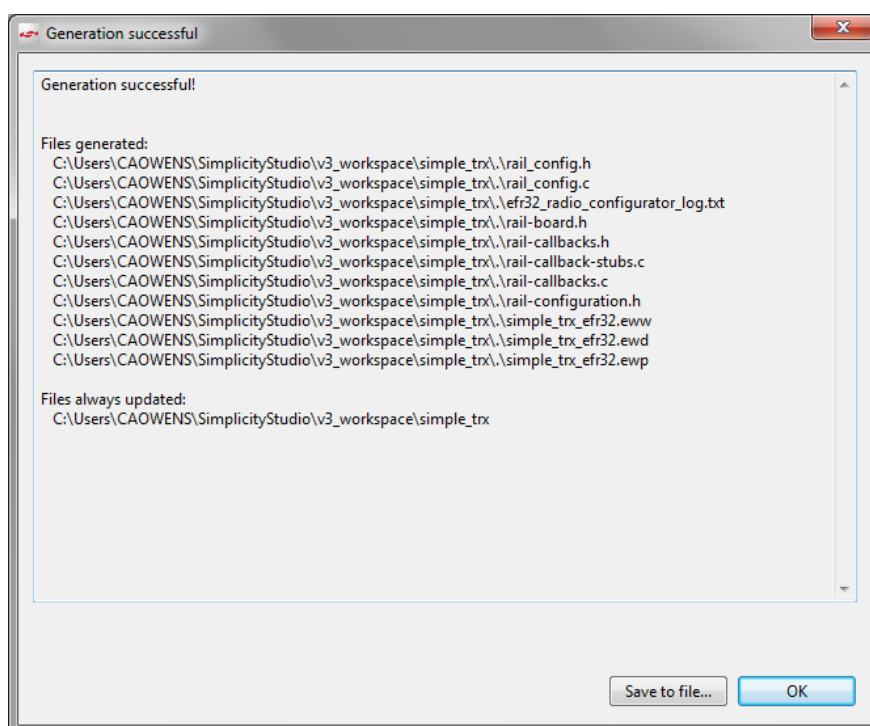

Figure 24 Generation Confirmation Dialog
- When generation is complete a dialog shows the generated files, one of which has the extension .eww (Figure 24). Click **[OK]**.